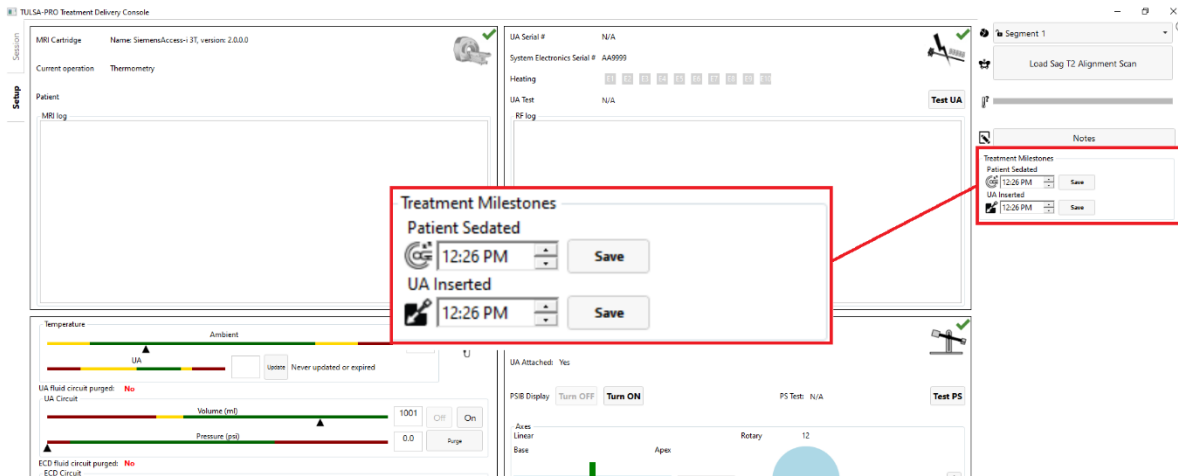

Figure 30: Entering Treatment Milestones in the TDC Setup Workspace
1. In the TDC *Setup* Workspace, enter the sedation and UA insertion times under **Treatment Milestones** (*Figure 30*).